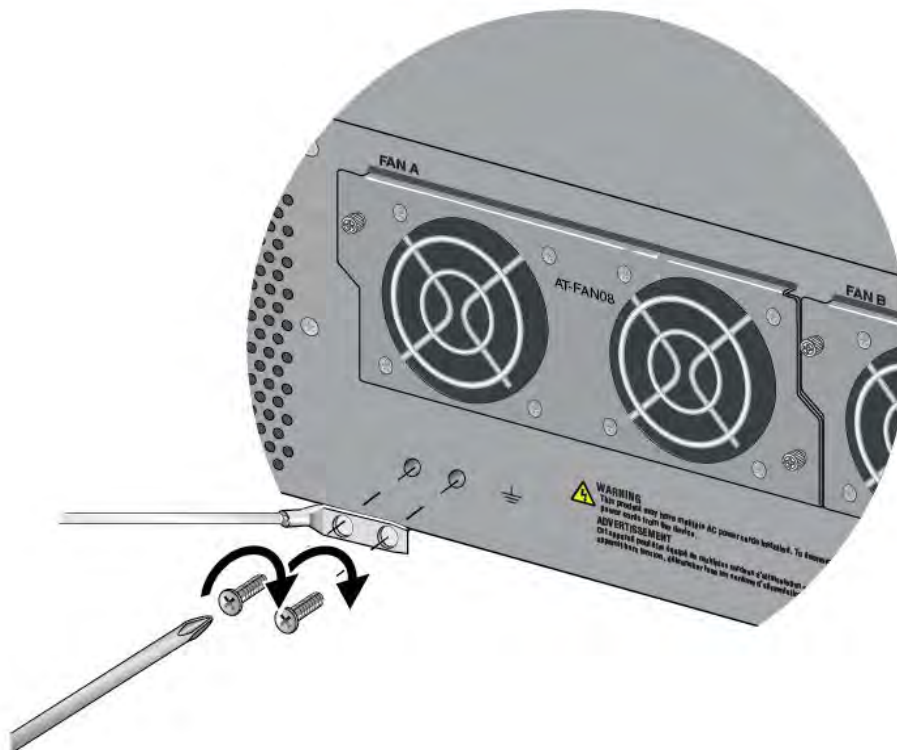

Figure 32. Installing the Grounding Lug and Wire on the Switch
4. Reinstall the grounding lug on the rear panel of the switch with the two screws removed in step 2. Refer to Figure 32.